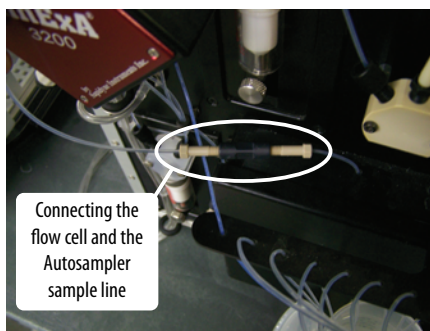
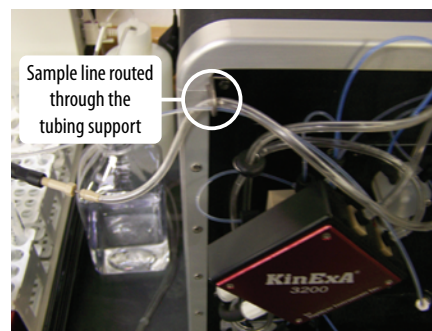

Figure 5.
Figure 6.
5. Connect the flow cell and Autosampler sample line together through a union (**Figure 5**). Route the tubing through the upper left tubing support on the KinExA (**Figure 6**).